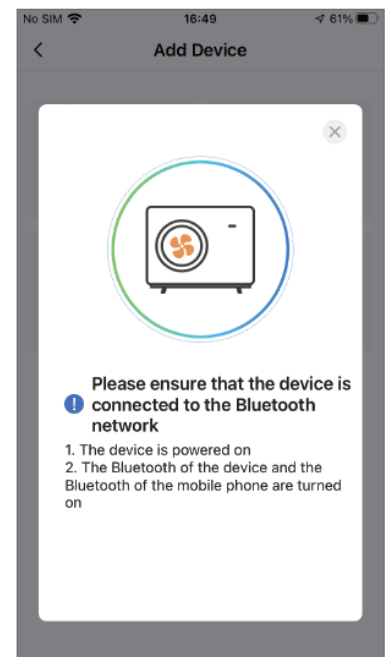

Fig.8 Searching device interface
3. The APP automatically searches for the WIFI module (Fig 8);